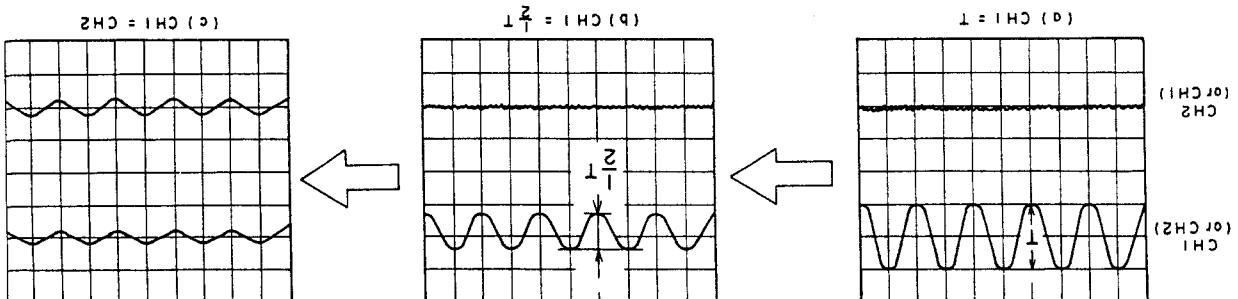

Fig. 4-14
- 2) Connect an oscilloscope's CH-1 to the AUDIO OUT (L) terminal on the rear panel and CH-2 to TPA401 (CTL OUT) on the MAIN PCB.
- 3) Turn the hexagon screw to obtain 1/2 of the output level of either CH-1 or CH-2, whichever has an output signal as shown in Fig. 4-14.